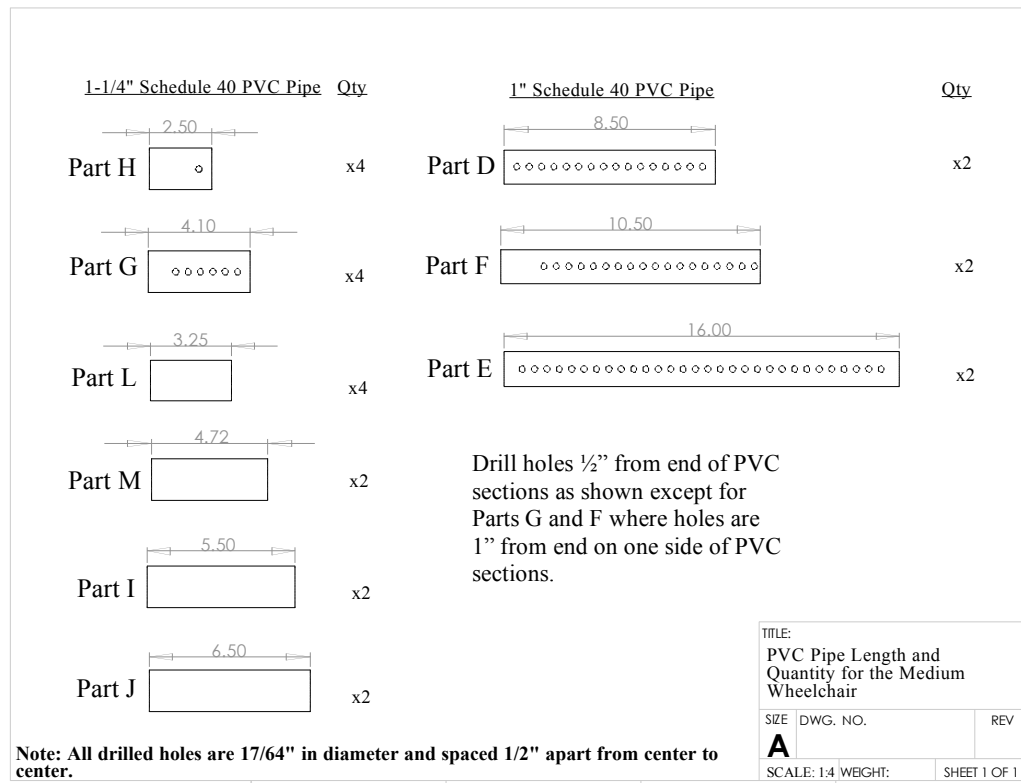
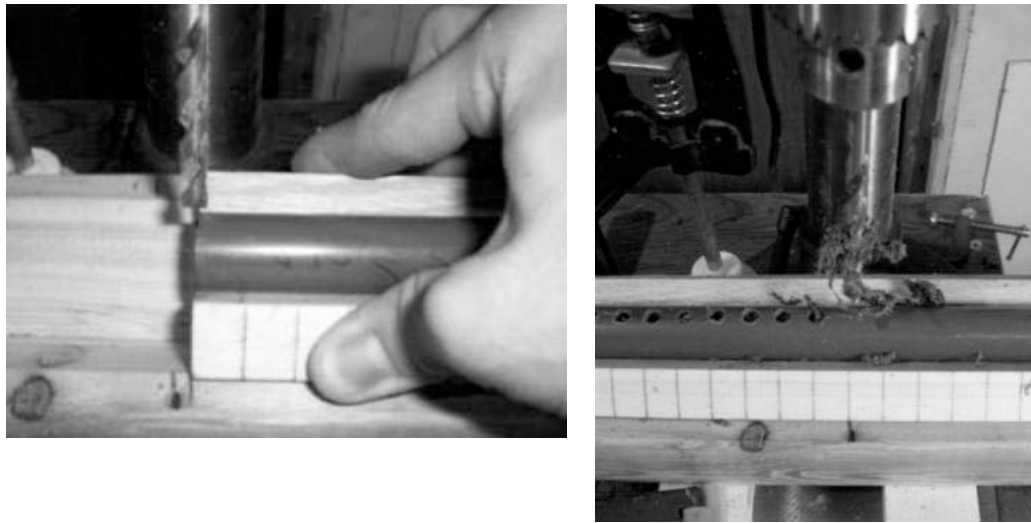

FIGURE 2 – Linear Sections of PVC Pipe and Quantities for Medium Wheelchair.
FIGURE 5 – Step 1 – Drilling Holes.
Step 1: Cut linear sections of PVC to lengths specified in Figure 2 (medium-sized wheelchair) or 3 (large-sized wheelchair). Mark locations and drill holes as specified in Figure 2 or 3 (depending upon wheelchair size) using a drill or preferably drill press (Figure 5). Be certain to align all holes at the mid-point of the PVC pipe section and assure that holes are parallel to each other. Failure to do so will result in difficulty in adjusting wheelchair dimensions. (Details on constructing a jig to aid in drilling the holes in PVC pipe will be forthcoming.)